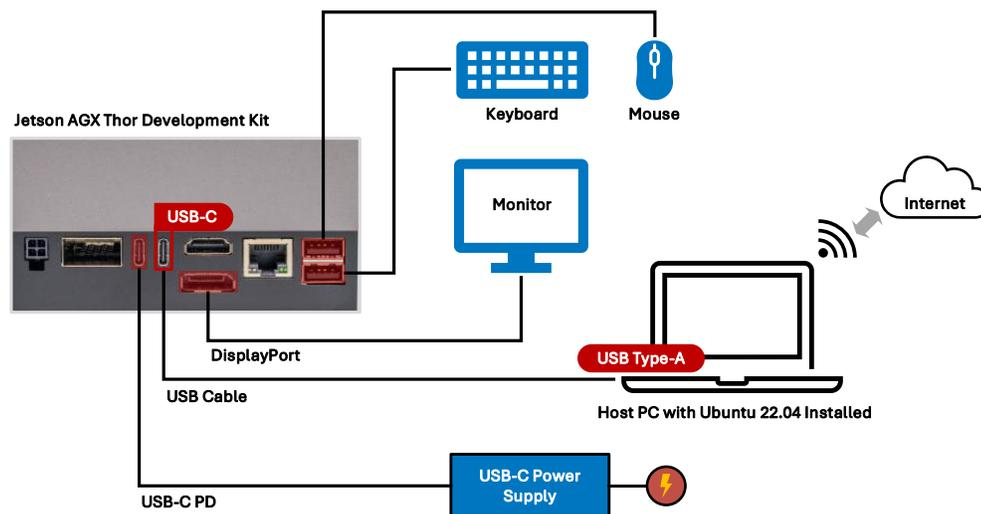

Figure 6.13. Hardware Setup for Flash Jetson AGX Thor
1. Make sure the hardware setup is done as shown in Figure 6.13, also make sure the Ubuntu Host PC is powered up and the internet connection is enabled.